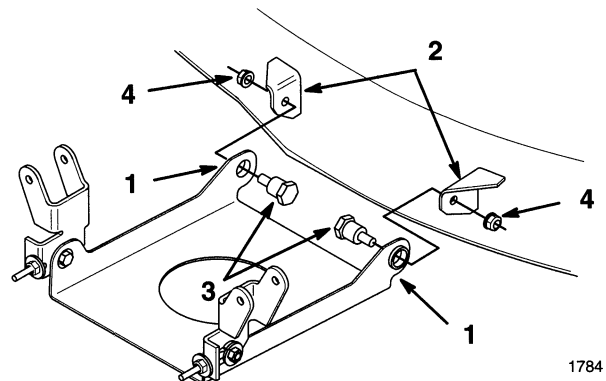

Figure 3
7. Position mounting plate with tabs up, between brackets on the front of the mower (Fig. 3).
8. Insert shoulder bolts, through mounting plate into mower brackets. Secure with lock nuts (Fig. 3).